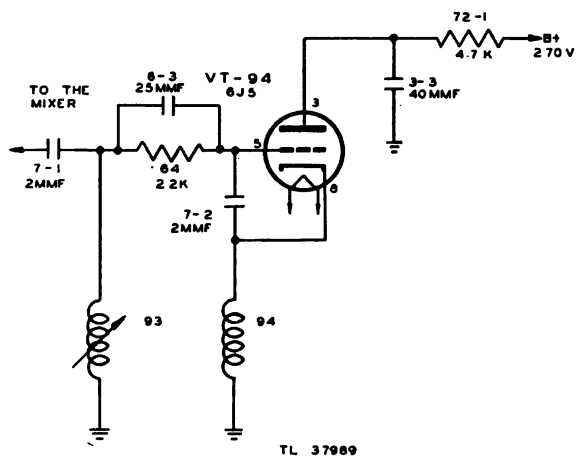

Figure 26. Local oscillator, partial schematic.
*a. GENERAL.* To generate the desired i-f signal of 11 megacycles, it is necessary to mix the r-f signal with the frequency of the local oscillator and tune the first i-f stage to the difference between the two frequencies. The local oscillator in this receiver (fig. 26), is a modification of the Colpitts type in which the plate capacitor is replaced by a coil 94. This coil is constructed to be resonant below the lowest operating frequency of the oscillator. There-